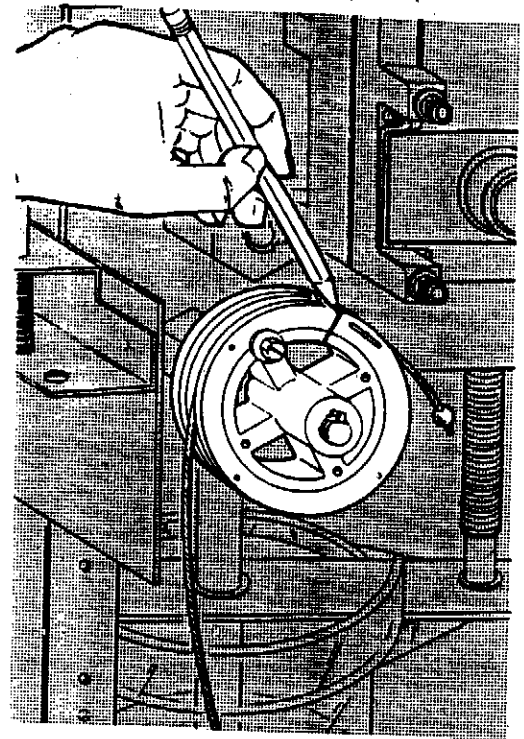

FIGURE 13
2. Mark the inner and outer section of the cable spool with a pencil line across both pieces to provide a reference mark. See FIGURE 13.